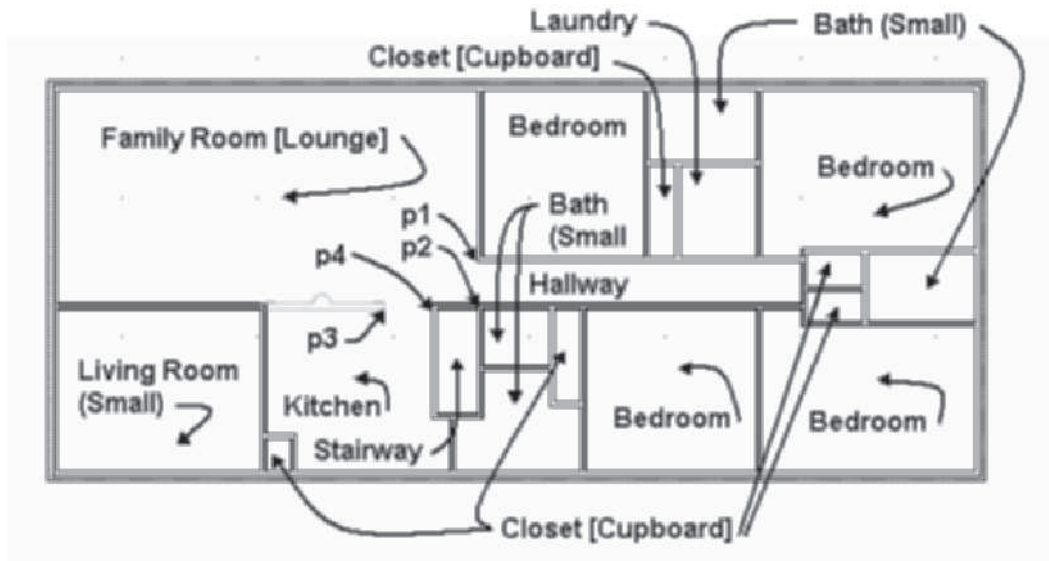

FIGURE 4.75 Space locations for project
6. Create 2D associative spaces as shown in Figure 4.75. Apply the Room Tag w/Dimensions to each space.